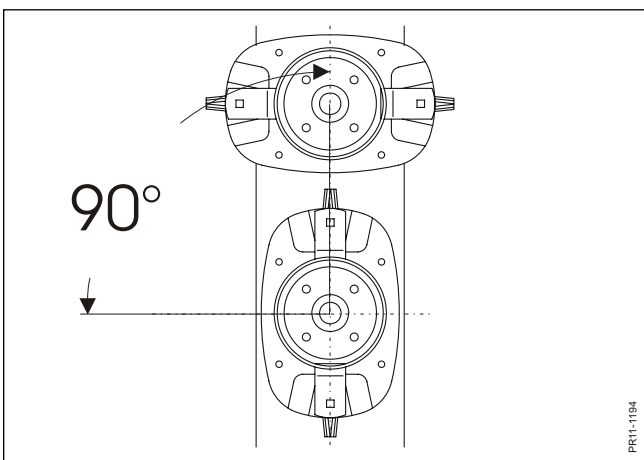

Fig. 5-11
- Fig. 5-11** If discs have been dismounted they must be mounted again staggered 90° in relation to each other.